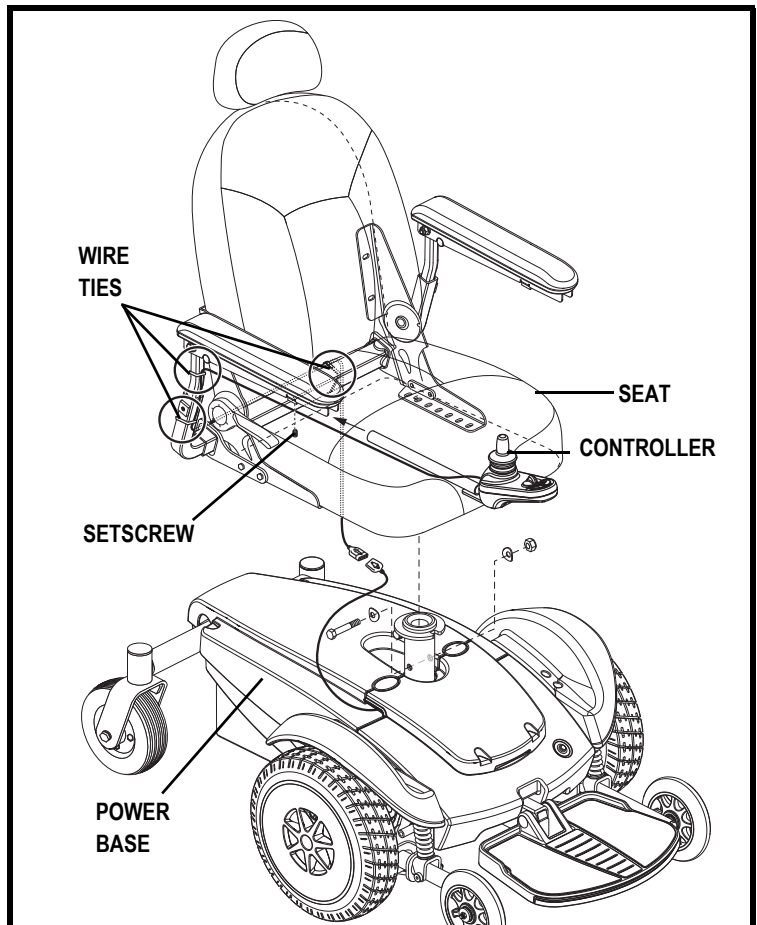

Figure 10. Seat and Controller Assembly
1. Adjust the upper seat post to the desired position and insert the bolt through the seat post and secure with the nut. See figure 10.
2. Slide the seat down onto the upper seat post. See figure 10.
3. Install the controller into one of the armrests. Tighten the setscrew with the supplied hex key. See figure 10.
4. Lift the armrest straight up, then route the controller cable and secure with wire ties as shown in figures 10 and 11.